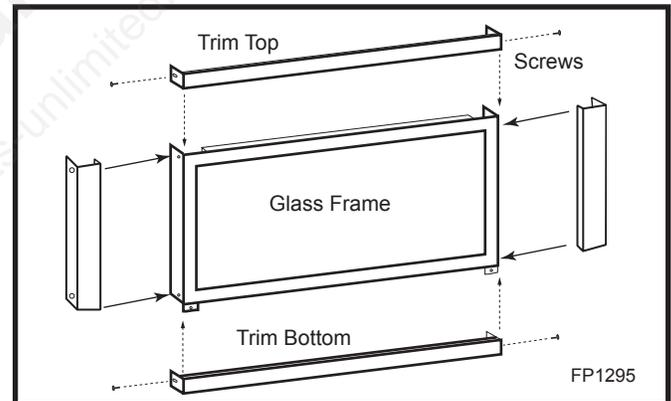
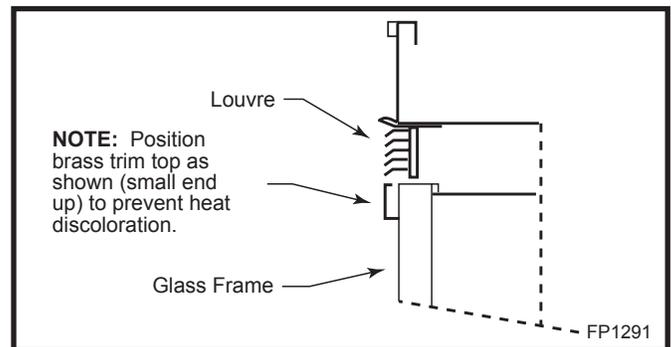

Fig. 59 Install support window trim channel and top and bottom brass trim.
Fig. 60 Position brass trim top to with small end up.
2. Install top and bottom brass trim (Fig. 59 & Fig. 60) Use the shortest black screw.